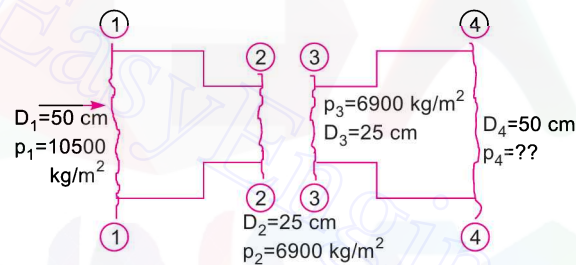

Fig. 11.3
**Problem 11.14** In Fig. 11.3 below, when a sudden contraction is introduced in a horizontal pipe line from 50 cm to 25 cm, the pressure changes from 10,500 kg/m2 (103005 N/m2) to 6900 kg/m2 (67689 N/m2). Calculate the rate of flow. Assume co-efficient of contraction of jet to be 0.65.